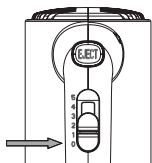

Fig. 3
3. Turn the switch knob to “0” position and put the mixture into the bowl or other objects, and then plug in the power supply socket (See Fig. 3).